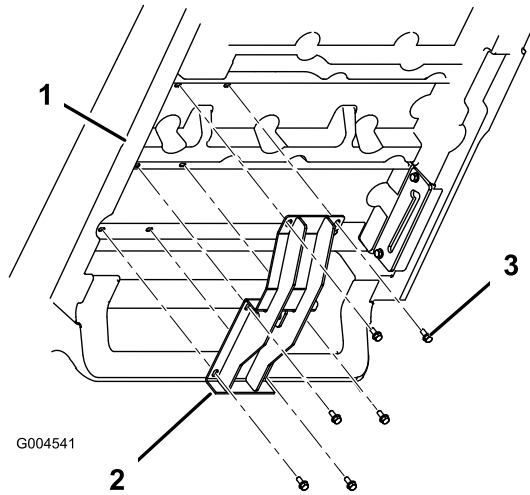

Figure 4
1. Remove the screws from the braces on the underside of the box in the positions shown in (Figure 4).
2. Mount the upper lift bracket to the underside of the box with 6 flange head screws (5/16 x 3/4 inch) from loose parts and removed previously. Position the bracket as shown in Figure 4.